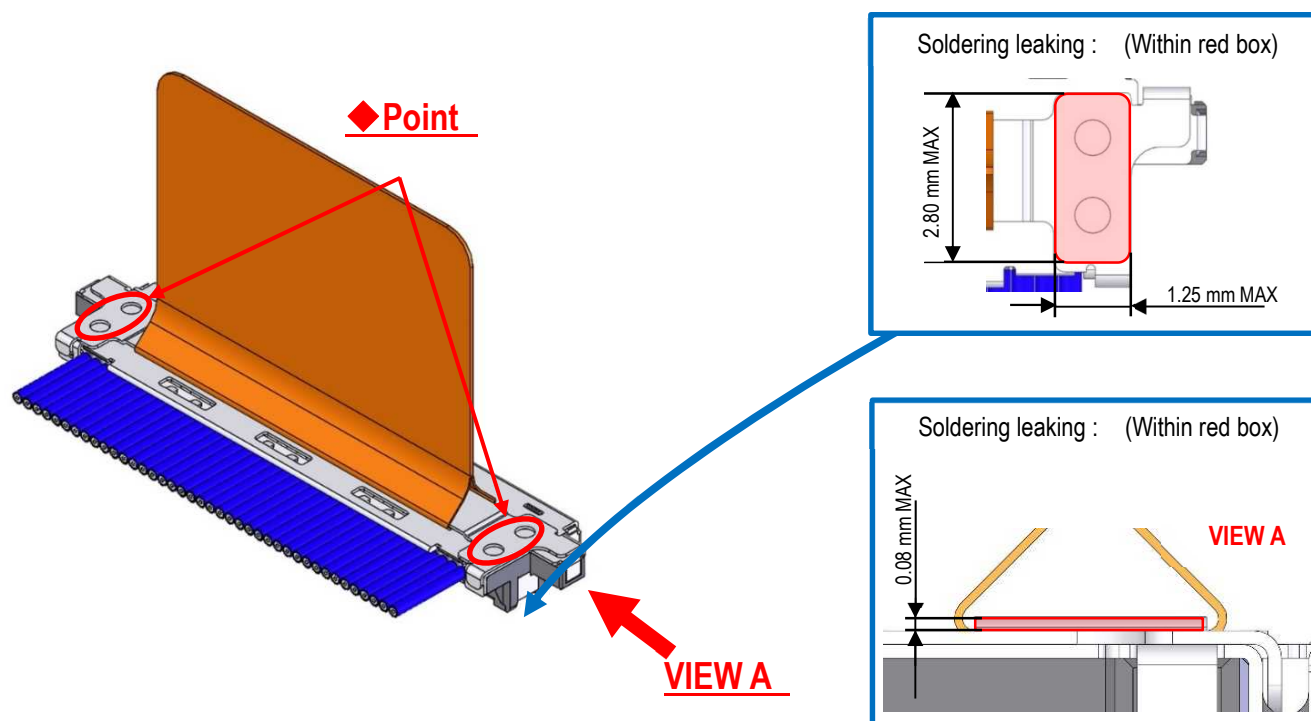

Fig.13 Soldering of PULL TAPE HOLDER
- ③ Use soldering iron to solder PULL TAPE HOLDER and SHELL-A. (Fig.13◆point)